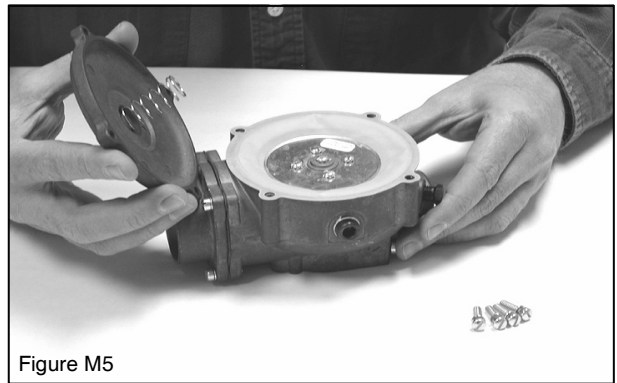

Figure M5
2. Gently remove the diaphragm cover from the top of the mixer. Take care not to lose the air-valve spring shown in (Figure M5).